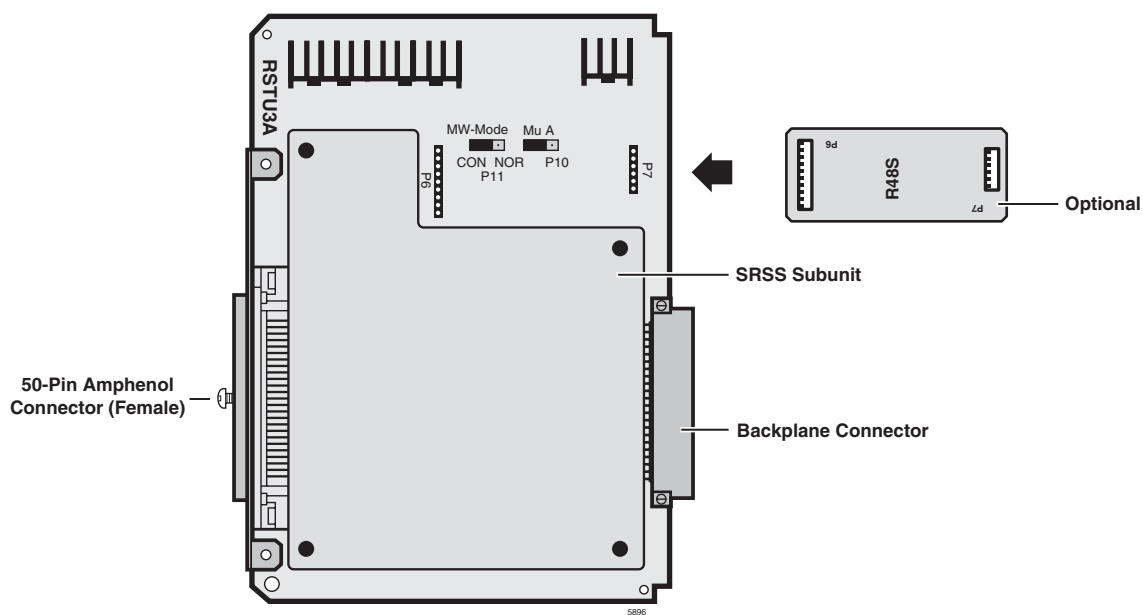

Figure 4-9 RSTU3 Controls and Interface Connectors
1. Make sure the factory-installed SRSS subunit is securely attached to the RSTU (Figures 4-9 and 4-10).